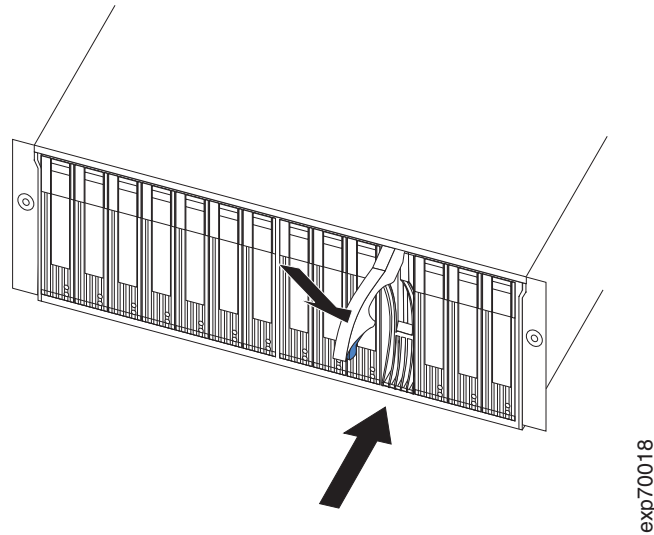

Figure 18. Replacing hot-swap hard disk drives
2. Push the tray handle down into the closed (latched) position as shown in Figure 18.